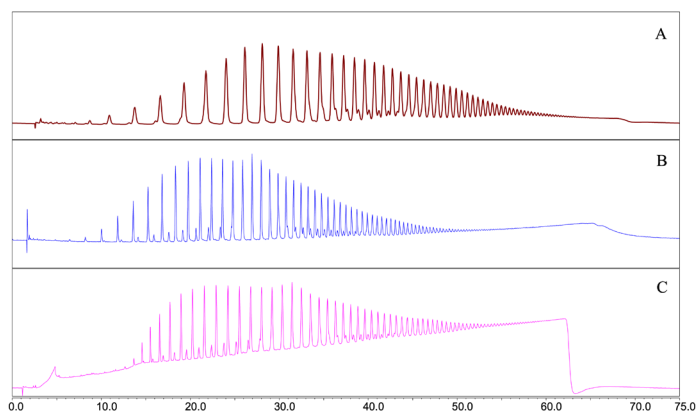

Figure 2: Analysis of Inulin. A: CarboPac PA300-4µm. B: CarboPac PA200. C: Competitor column.
Inulins are naturally occurring polyfructans produced by plants with 11 to 60 degrees of polymerization (DP). Figure 2 shows the profile of chicory inulin on a Dionex CarboPac PA300-4µm Column compared to a Dionex CarboPac PA200 Column and a competitor column. Although peak assignment and identification is difficult without a commercial standard, similar numbers of peaks were observed by all tested columns with the Dionex CarboPac PA200 Column showing a slightly better resolution.